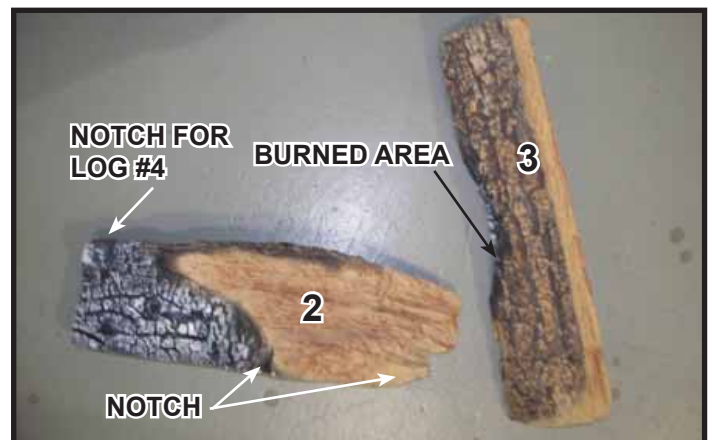

Figure 4.
**Log #2 (2282-702):** Locate log placement notches on the bottom of Log #2. See Figure 4. Mate notches on the bottom of Log #2 as shown in Figure 5. Notch on front of log will contact right front grate tine and notch on right side of log will contact front inside corner of side grate tine.